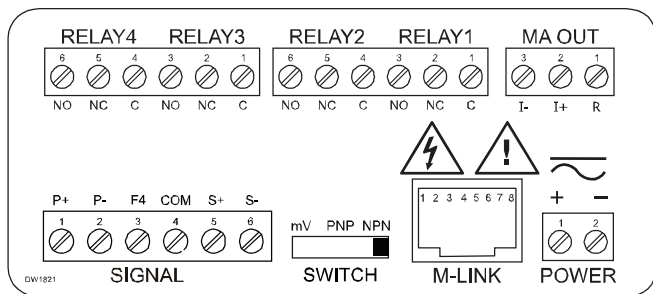

Figure 6: Connector Labeling for Fully Loaded MPV Pulse Input
Power connections are made to a two-terminal connector labeled POWER in Figure 6. The meter will operate regardless of DC polarity connection. The + and - symbols are only a suggested wiring convention.
Signal connections are made to a six-terminal connector labeled SIGNAL in Figure 6. The COM (common) terminal is the return for the input signals.
Serial communications connection is made to an RJ45 connector labeled M-LINK on Figure 6. For interfacing to the meter, use MPV-Option-B for RS-485 or MPV-Option-F for USB. The same port is used for interfacing with all expansion modules (e.g. external relays, digital I/O).
Relay connections are made to two six-terminal connectors labeled RELAY1 – RELAY4 in Figure 6. Each relay's C terminal is common only to the normally open (NO) and normally closed (NC) contacts of the corresponding relay. The relays' C terminals should not be confused with the COM (common) terminal of the INPUT SIGNAL connector.